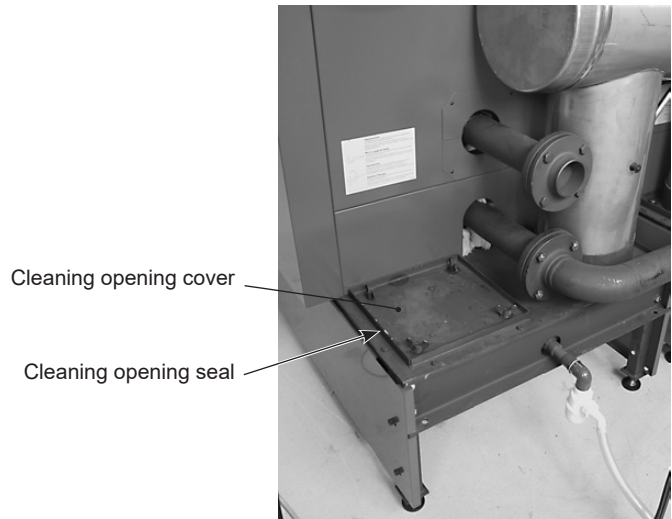

Fig. 54
The water can be filled into the neutralisation unit and the siphon via the cleaning opening (Fig. 54).
19. Check the seal of the cleaning opening (Fig. 54) for wear and replace if necessary.
20. Install the cover of the cleaning opening (Fig. 54) and check it is gas-tight.